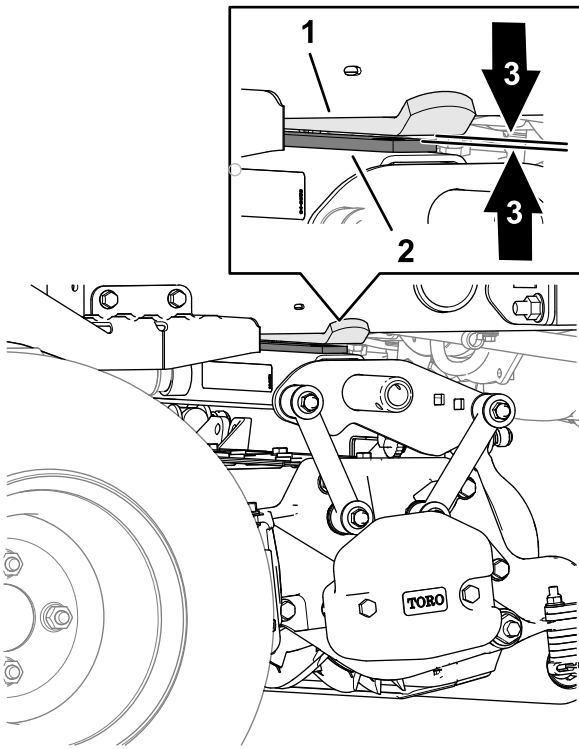

Figure 27
- At the rear cutting unit, measure the clearance between the wear strap on the top of the rear cutting unit wear bar and the bumper stop (Figure 27).